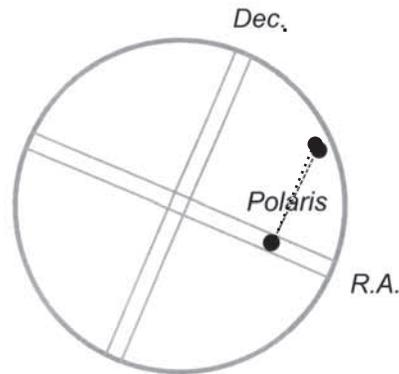

Figure 11. Adjust the telescope in Dec. (with the hand controller) to place the star on the R.A. crosshair.
7. Using the Dec. direction button on the hand controller, adjust the telescope in Dec. so Polaris lies on the R.A. crosshairs of the illuminated reticle eyepiece (**Figure 11**).